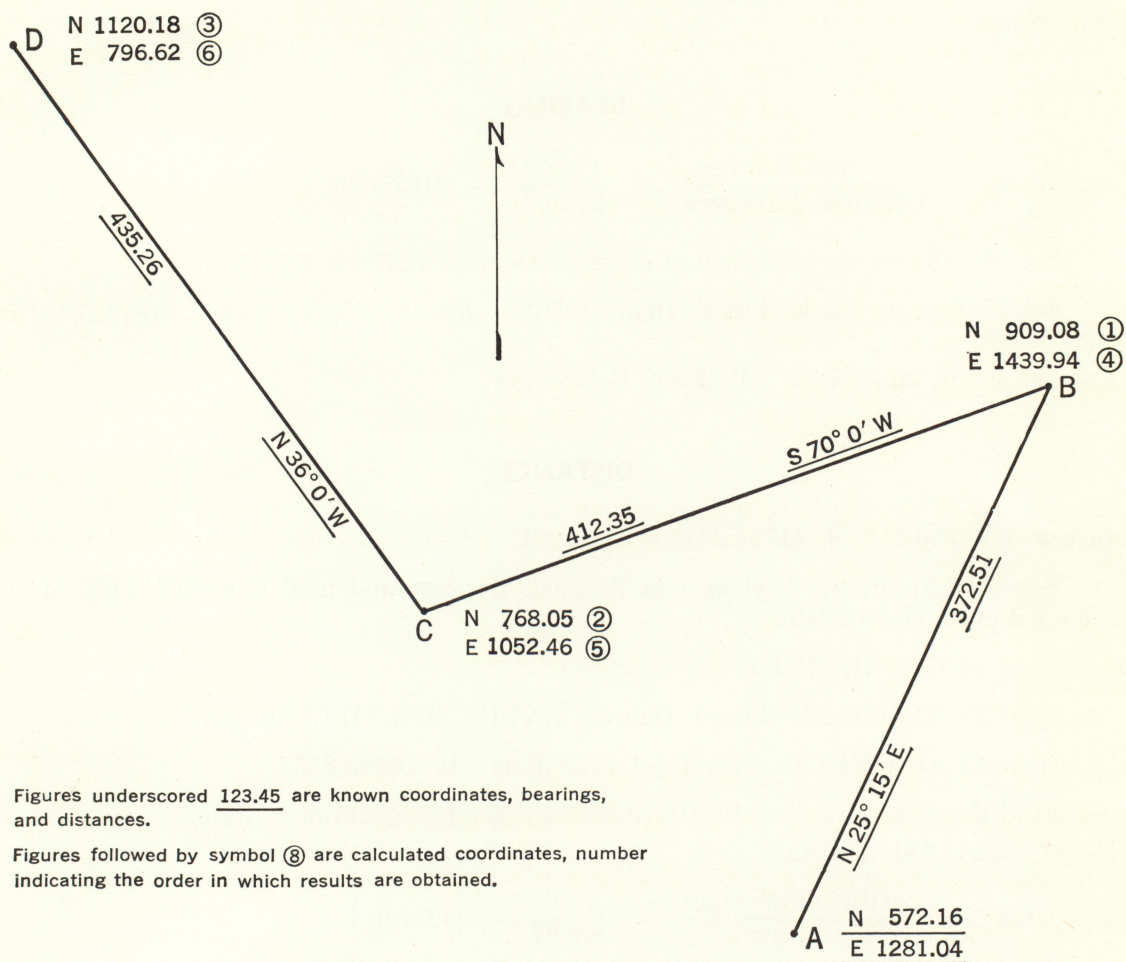

FIGURE 3
Example In Figure 3, given the coordinates of point A, the bearings and distances of A-B, B-C, and C-D, find the coordinates of points B, C, and D.
The circled numbers (e.g. ②) after the results in the following steps tie in with the values in Figure 3 and the table; these numbers also show the sequence in which the desired results are secured.